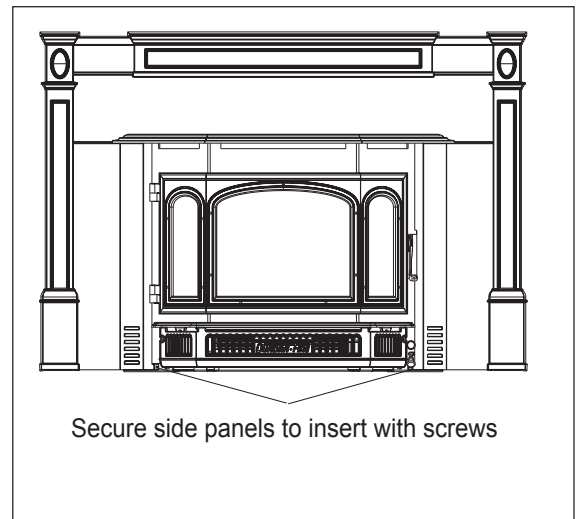

Figure 18.2 - Completed View
9. Secure panels to insert with 8-32 sheet metal screws through tabs on bottom lower inside corners on side panels. **Figure 18.2.**